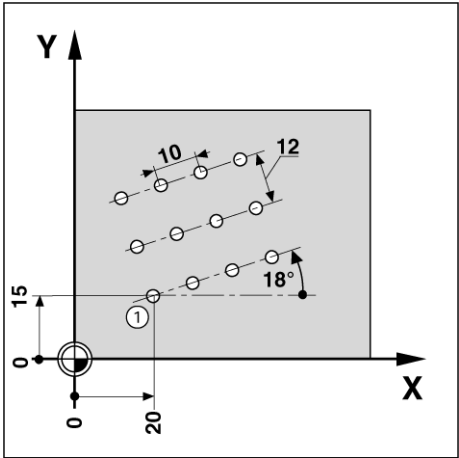

Fig. I.38
**Example: Entering data and executing linear pattern. See Fig. I.37 & Fig. I.38.**